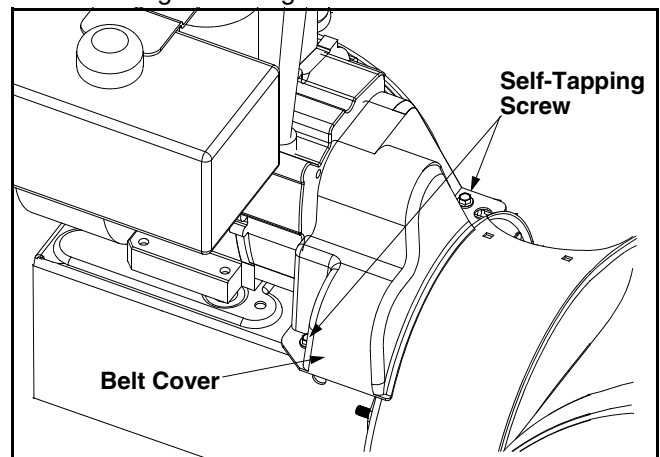

Figure 14
- Remove the plastic belt cover at the front of the engine by removing the two self-tapping screws. See Figure 14.